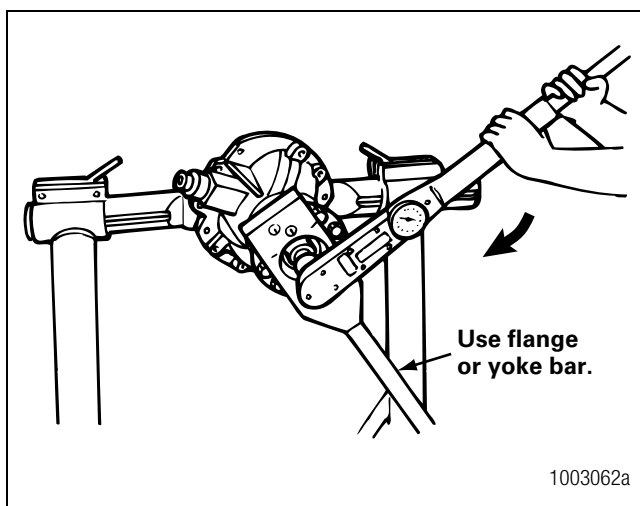

Figure 5.34
6. Install the drive pinion nut, and washer if required, onto the input pinion shaft and against the yoke collar. Tighten the nut against the yoke collar to torque specifications. Figure 5.34. Refer to Section 8.